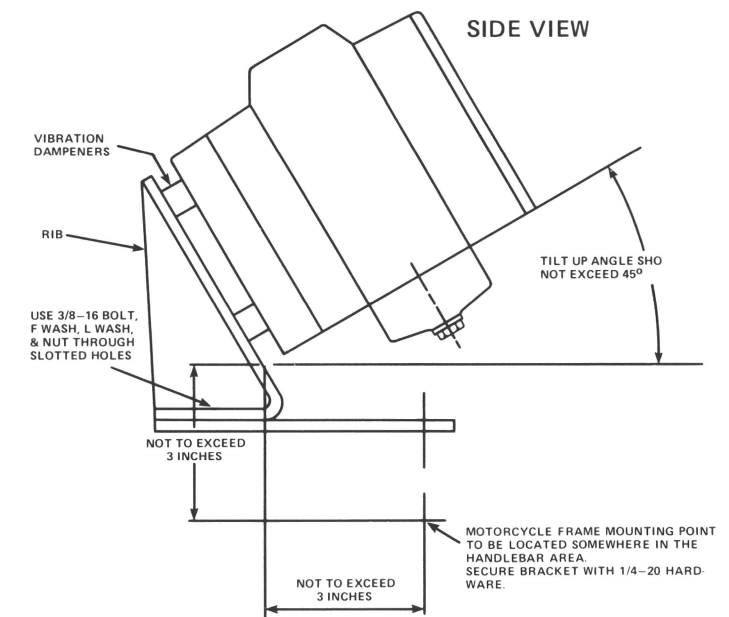

Figure 2 — Typical Motorcycle Mount
1. Height dimension including (4) vibration dampeners (see Figure 2).
- 4. Mount the Radio according to Steps 2 through 7 as shown on Figure 2, using the long threaded studs, 3/8-inch hexnuts and lockwashers for Steps 2 and 3.